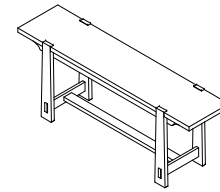

Figure 3
3. Attach the remaining two leg to the assembly with Wood Dowel (A), Bolt (B), Bolt (F), Lock Washer (D), Flat Washer (C) and Flat Washer (D) by Allen Wrench (G) as shown in Figure 3.
3. Attach the remaining two leg to the assembly with Wood Dowel (A), Bolt (B), Bolt (F), Lock Washer (E), Flat Washer (C) and Flat Washer (D) by Allen Wrench (G) as shown in Figure 3.